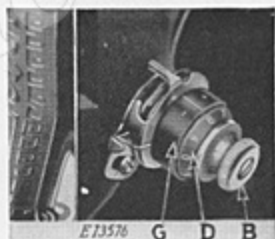

Fig. 15. Adjusting the Upper Tension
4. Turn tension thumb nut B, Fig. 15 counter-clockwise until there is no tension on thread.
6. Turn tension thumb nut B, Fig. 15 clockwise to tighten tension while lightly drawing thread through take-up lever, until take-up spring is lifted and thread can be held in a straight line between take-up lever and tension discs without taking thread through tension discs.
Machines 15-88 to 15-91, 66-16, 201, 221 and 301 have graduated scales **D**, **Fig. 15** so that, when correct tension is found for a particular kind of work, it is only necessary to note number on scale to obtain same tension at any time.